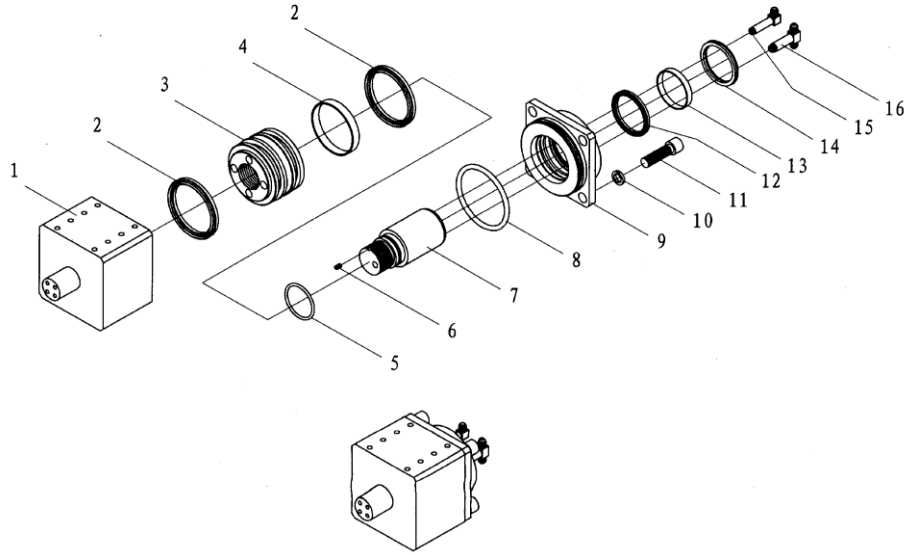

Fig.7-20
20. Assembly of clamping cylinder (Fig 7-20, Table 20)